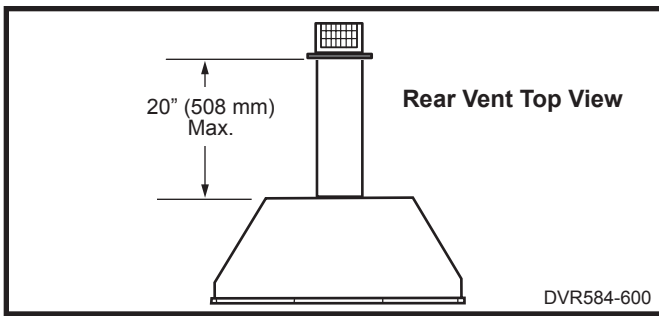

Fig. 20 Rear vent application, no elbows.
- The maximum horizontal distance between the rear of the appliance (or end of the transition elbow in a corner application) and the outside face of the rear wall is 20" (508 mm). (Fig. 20, 21)